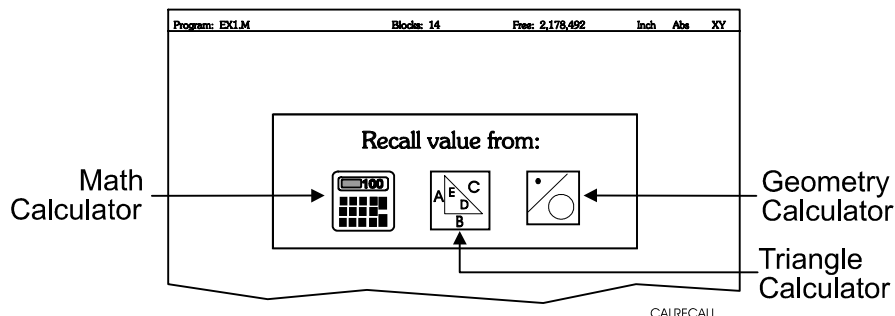

Figure 6-5, Recall Selection Pop-up Menu
The Program Editor always displays **Recall (F2)** when a Graphic Menu activates. Recall calculator solutions stored in memory directly to the entry fields of a Graphic Menu. You can recall stored values only from the same calculator in which they were stored. Use the menu to select the type of recall. Refer to **Figure 6-5**.
2. Press **Recall (F2)** to display the **Select point:** menu. Refer to Figure 6-5, Recall Selection Pop-up.